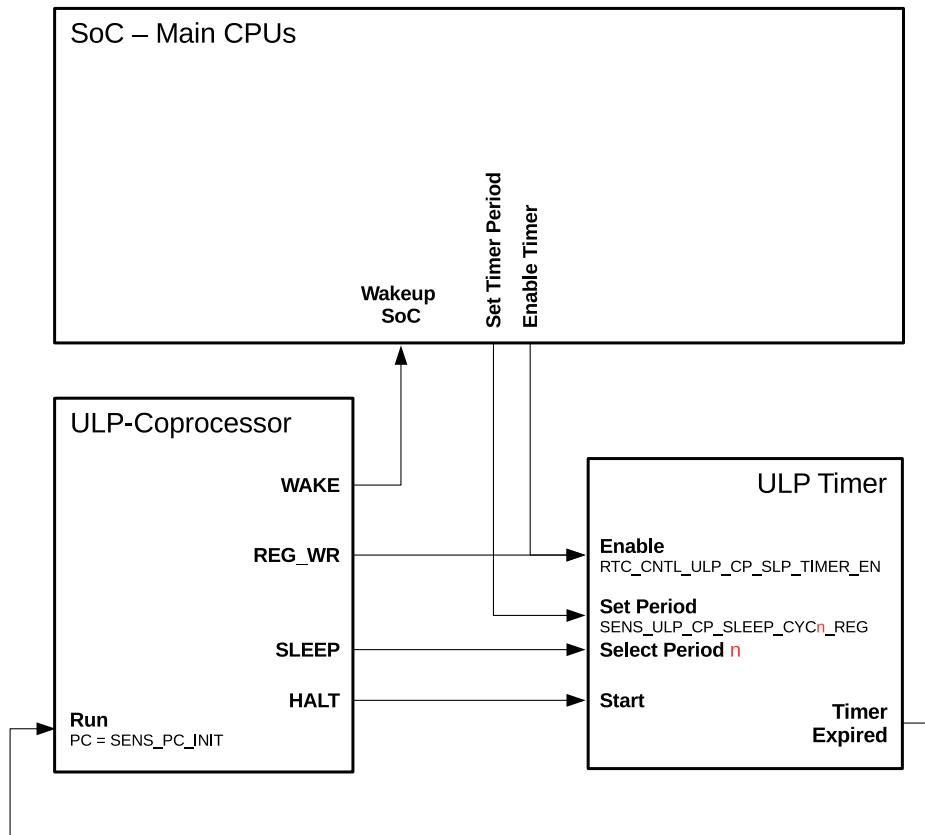

Figure 155: Control of ULP Program Execution
The ULP co-processor puts itself into sleep mode by executing the HALT instruction. This also triggers the ULP timer to start counting RTC_SLOW_CLK ticks which, by default, originate from an internal 150 kHz RC oscillator. Once the timer expires, the ULP co-processor is powered up and runs a program with the program counter (PC) which is stored in register SENS_PC_INIT. The relationship between the described signals and registers is shown in Figure 155.